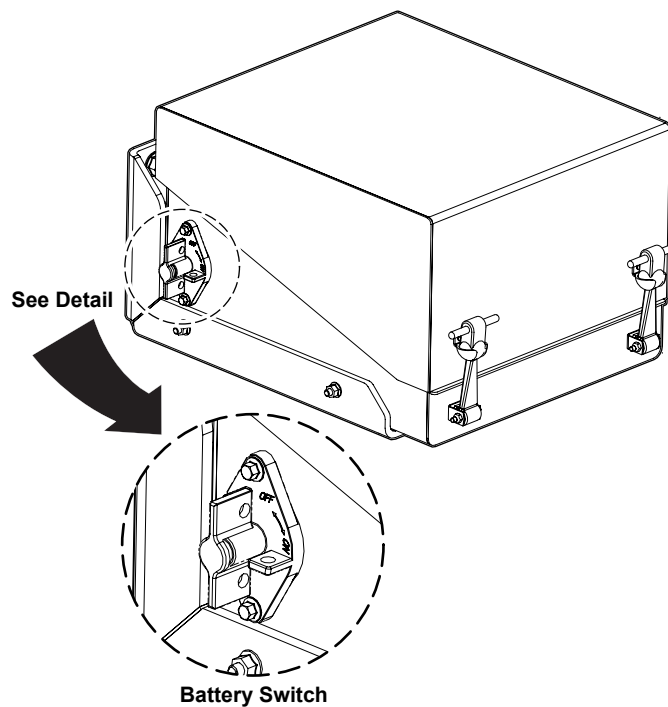

Figure 1
2. Verify that the battery disconnect switch is in the “OFF” position (*see Figure 1*).